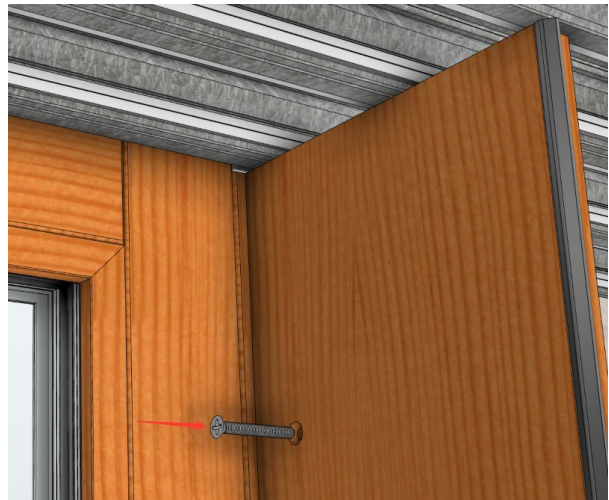

Fig PKT 16
- Fasten the skirt panel using the 10 – 32 x 1 1/2" Philips head machine screw (Fig. PKT 16).